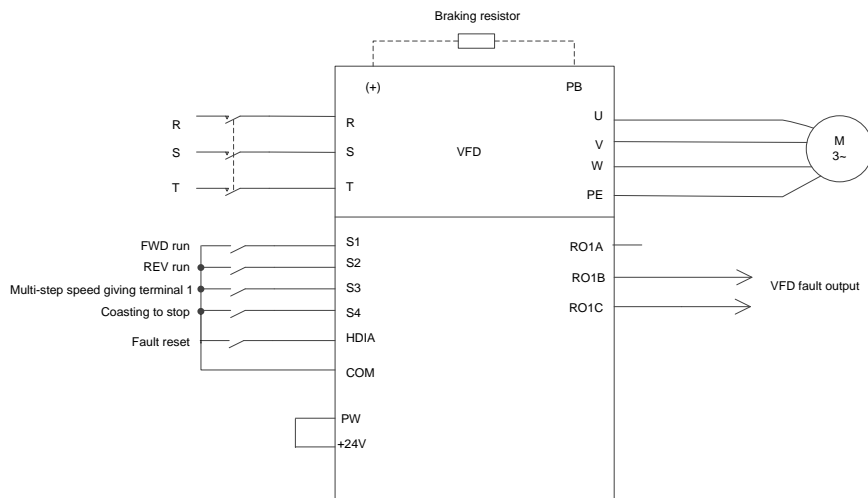

Figure 5-11 Wiring for the conical motor
**Note:** If the wiring is performed according to Figure 5-11 Wiring for the conical motor, most VFD parameters need no adjustment. If the onsite function terminals are inconsistent with the terminals shown in the figure, adjust the input and output terminal functions according to the actual wiring after selecting this application macro.